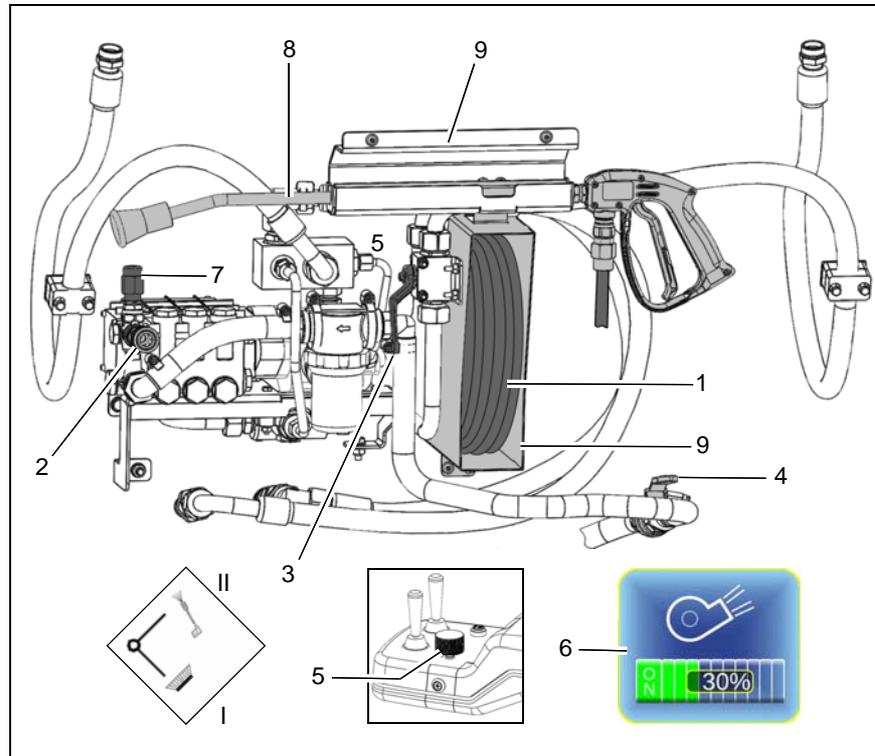

Fig.8
2. Remove the pressure hose (Fig. 8/1) from the hose holder and plug it into the connection (Fig. 8/2).
3. Set the changeover valve (Fig. 8/3) to the high-pressure cleaner position.
4. Open the fresh water supply (Fig. 8/4).
5. Select the working menu in the multifunctional display with the turn-push knob (Fig. 8/5) and set the speed for the high-pressure cleaner in the suction fan menu item (Fig. 8/6).
6. The pressure controller (Fig. 8/7) is preset to 120 bar.
7. Clean the surface with the lance (Fig. 8/8).
8. Set the changeover valve back to the suction fan position and close the fresh water supply. After cleaning, relieve the lance and pressure hose of pressure and stow them in the stowage (Fig. 8/9).